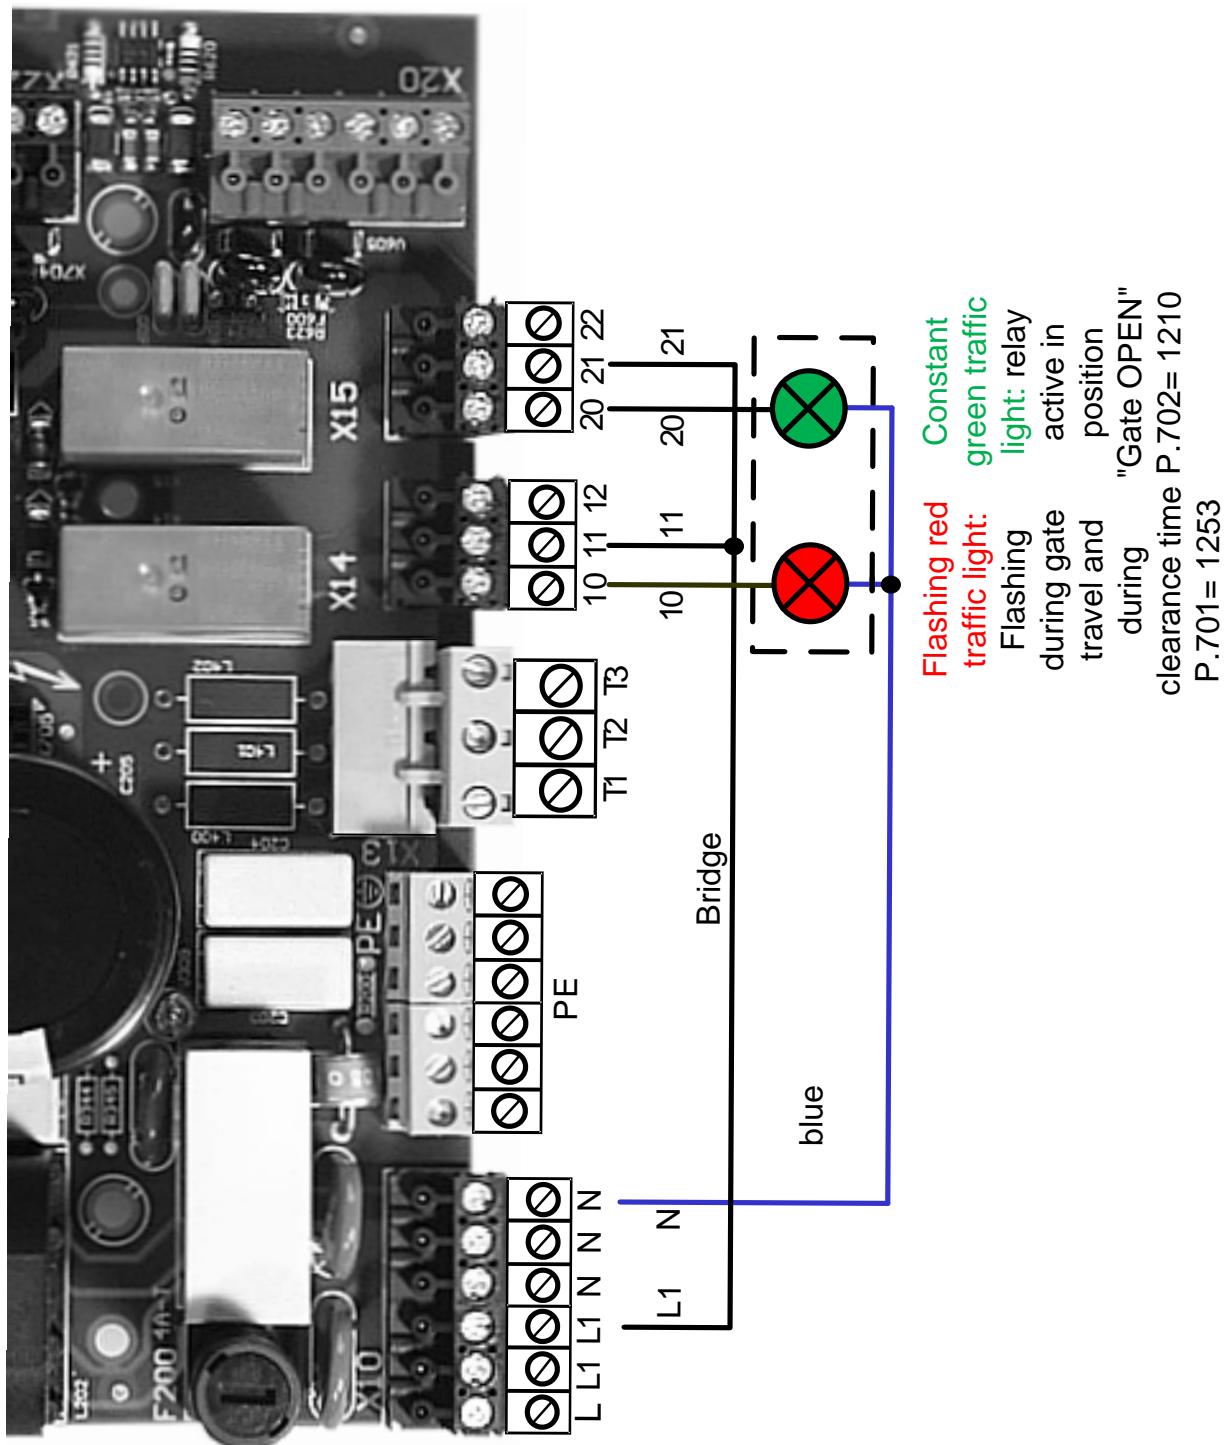

Figure 11: Traffic light connector
P.205: 0000 = Mechanical limit switches Version 1 (Fig. 11: Connecting cam switches)